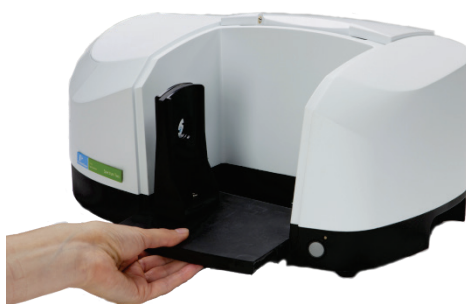

Figure 25 Removing the sampling accessory
2. Remove the current sampling accessory by pulling the baseplate of the accessory towards you (Figure 25).